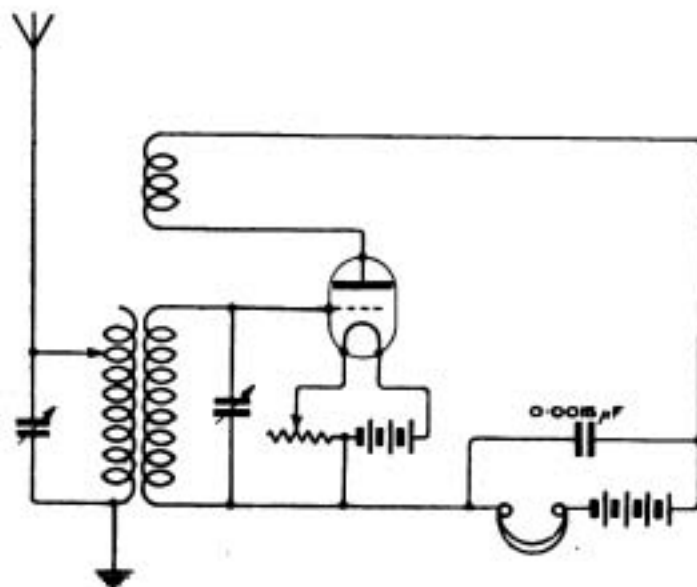

Fig. 1.
**NOTE**—This section of the magazine is placed at the disposal of all readers who wish to receive advice and information on matters pertaining to both the technical and non-technical sides of wireless work. Readers should comply with the following rules.—(1) Questions should be numbered and written on one side of the paper only, and should not exceed four in number. (2) Queries should be clear and concise. (3) Before sending in their questions readers are advised to search recent numbers to see whether the same queries have not been dealt with before. (4) The Editor cannot undertake to reply to queries by post. (5) All queries must be accompanied by the full name and address of the sender, which is for reference, not for publication. Queries will be answered under the initials and town of the correspondent, or, if so desired, under a "nom de plume." (6) Readers desirous of knowing the conditions of service, etc., for wireless operators will save time by writing direct to the various firms employing operators.
**NOVICE (Wimbledon).**—(1) and (2) Either of these connections will spoil the results obtained, and should be avoided if possible. Shorten the aerial and earth leads as much as possible, and do not run them near or parallel to other wires or to each other.
(3) We have no personal experience of the quality of the set referred to, but if reasonably well designed it should be of quite good type for a beginner's use.
(4) No, certainly do not use lead-covered wire for leading in wires.
**AMATEUR (Cumberland).**—(1) and (2) See Fig. 1 for a circuit to convert an amateur mechanic crystal set. It will be best to keep the primary and secondary coils as made in the set and cut